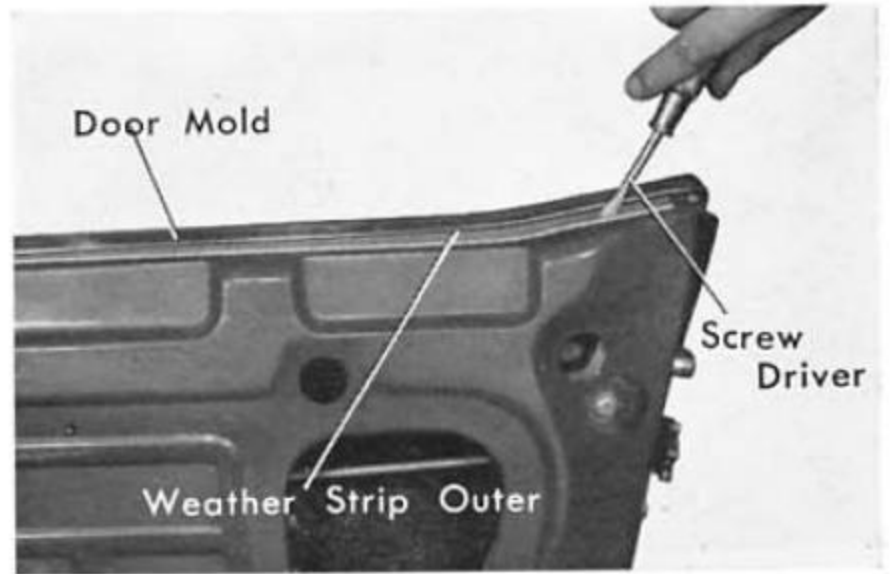

Fig. 17B-4
9. Remove the front door sash by unscrewing the bolts (Fig. 17B-5).